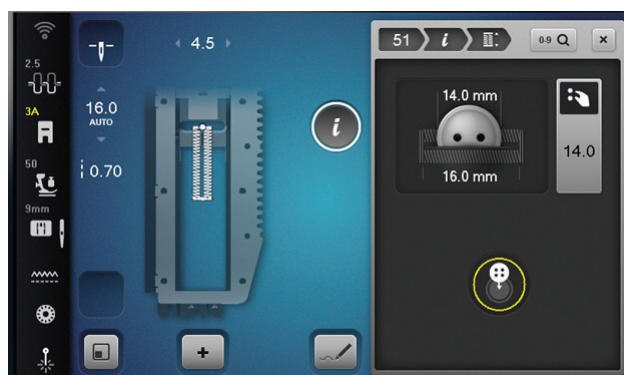

Fig. 19 : B 770 QE PRO Display Screen
3.  Select the On-screen Button Measuring icon (Fig. 19).